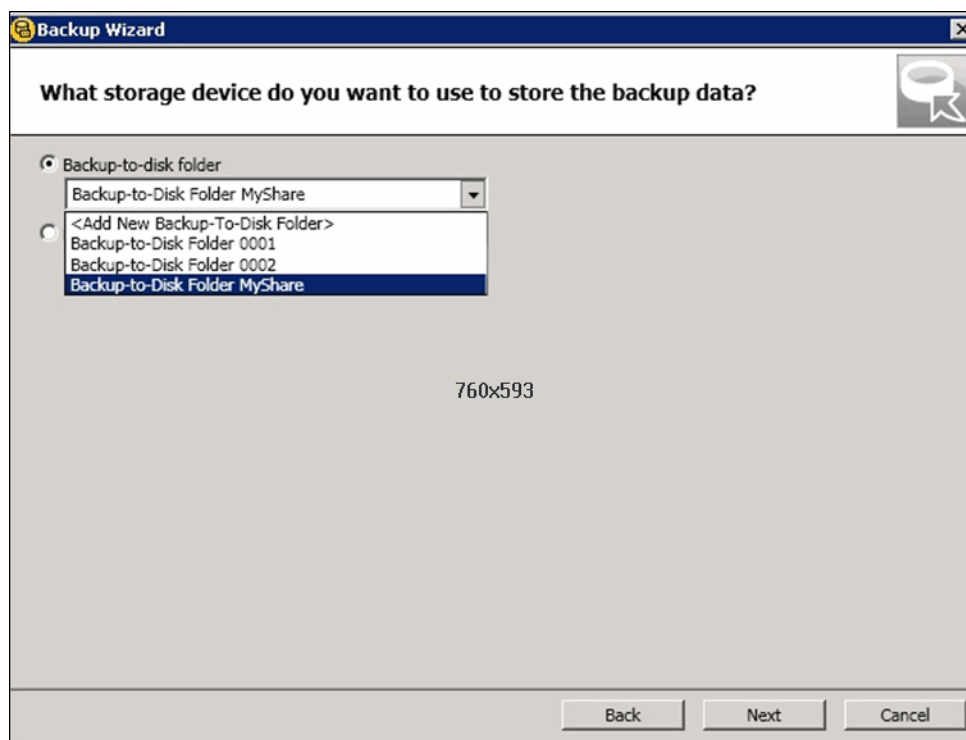

Figure 15-3 Choose backup-to-disk folder from the Backup Wizard window
6. Select **Backup-to-disk folder**, and in the drop-down list, click the folder that you configured and then click **Next** (Figure 15-3).